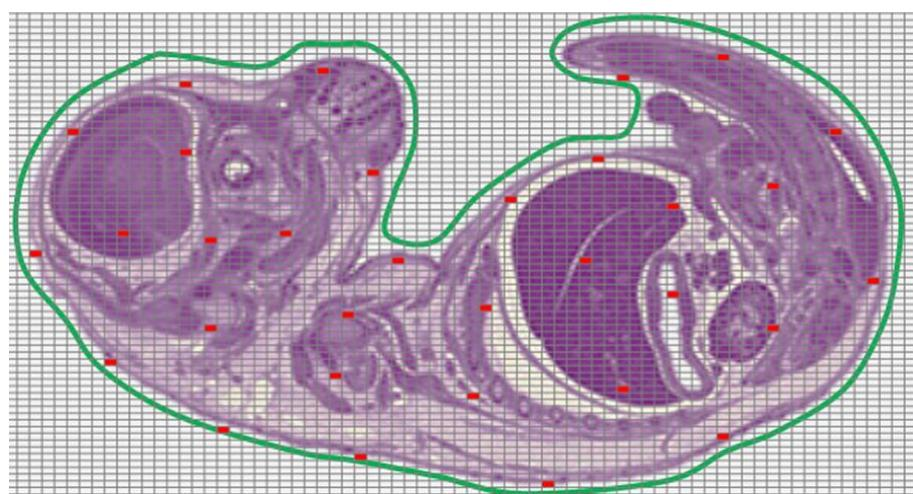

Figure 27      Mouse embryo with **onion skin** distribution at 20x (32 points)
**Density is set 0.2** for the scan shown in figure 27. This means the spacing of the concentric ring layout used to position points is **20%** of the width of the slide in the Y direction. Setting a low figure such as 0.1 and increasing the maximum number of points would result in a focus map with more densely positioned points.